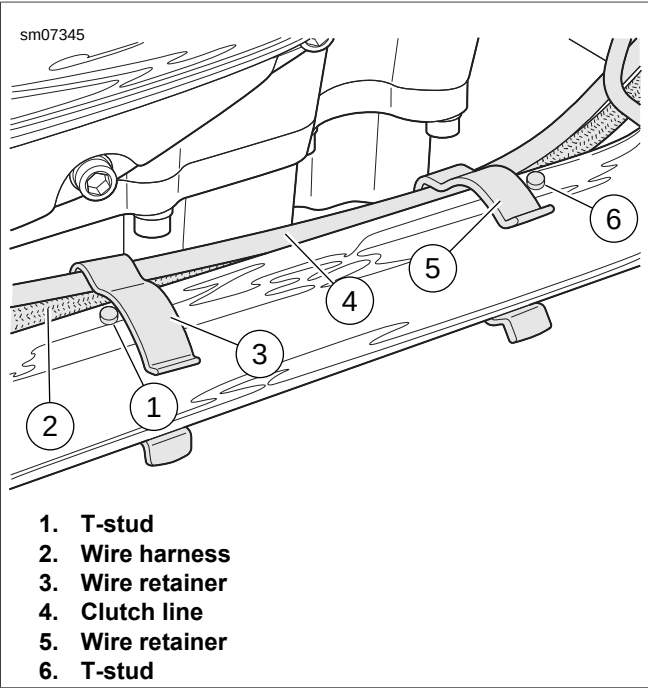

Figure 2-30. Wire Retainers
6. See Figure 2-30. Remove wire retainers (3, 5).
8. See Figure 2-30. Install wire retainers (3, 5) over clutch line and wire harness. Wire retainers should be located inside of T-studs (1, 6) and touching T-studs.